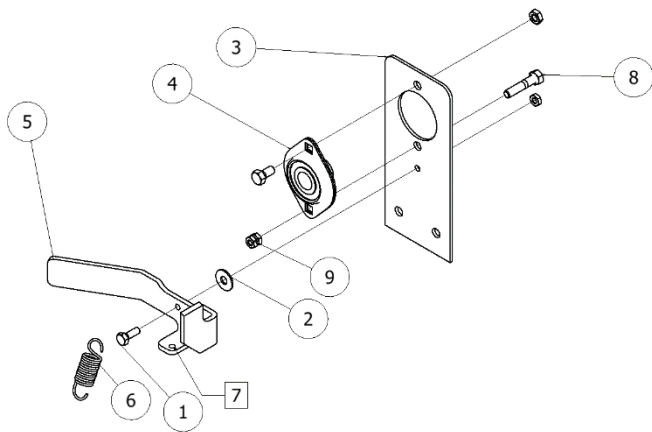

Figure 1.3
The locking ratchet typically comes preassembled in “-R” upgraded systems, but if it is not assembled, using a 1/4” x 1” hex bolt (1), 1/4” plastic washer (2), and 1/4” hex nut, secure the locking handle (5) to the mounting bracket just under the bearing (4). Connect the spring (6) to the flange hole (7) on the locking handle and the 5/16” x 1-1/2” hex bolt (8) coming through the bottom of the bearing. Be sure to sandwich the spring between the 5/16” hex nuts (9). The hex nuts on either side of the spring to not need to be tightened to each other. It is preferred that you leave the outermost hex nut on the very end of the bolt on just far enough for the Nylock to engage. (Figure 1.3)